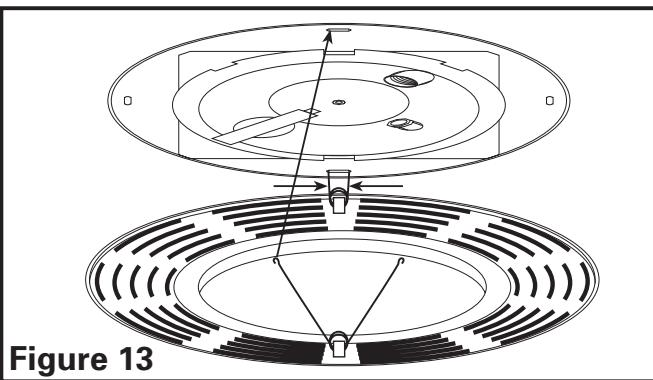

Figure 13
- Install the grill by squeezing the two ends of the springs together and installing them up into the slots on the fan's housing. Push the grill up into position (**Figure 13**).